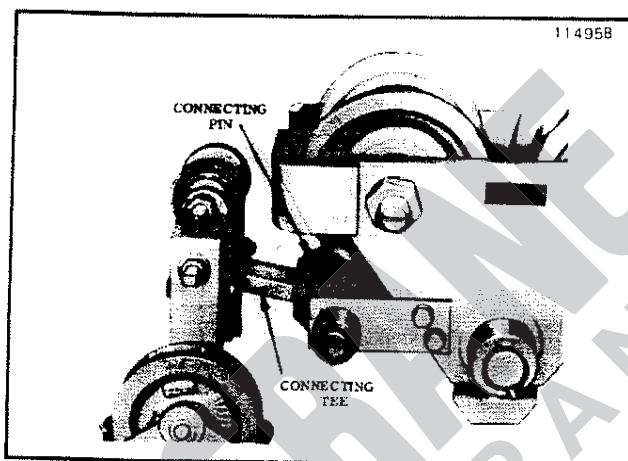

Figure 2-1. Connecting Track Clamp to HI-CAP Trolley.
2-2. If Track Clamp is attached to hoist or trolley, separate by removing cotter pin and connecting pin from connecting tee (figure 2-1).
a. Remove cotter pin and connecting pin (Figure 2-1) from connecting tee and disconnect clamp from trolley or hoist.